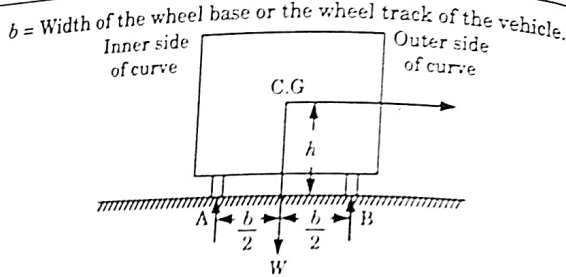

Fig. 2.15.1. Overturning due to centrifugal force.
- The centrifugal force that tends the vehicle to overturn about the outer wheels B on horizontal curve without superelevation is shown in Fig. 2.15.1.
- iii. From Fig. 2.15.1, the equilibrium condition for the transverse skid resistance developed is given by :